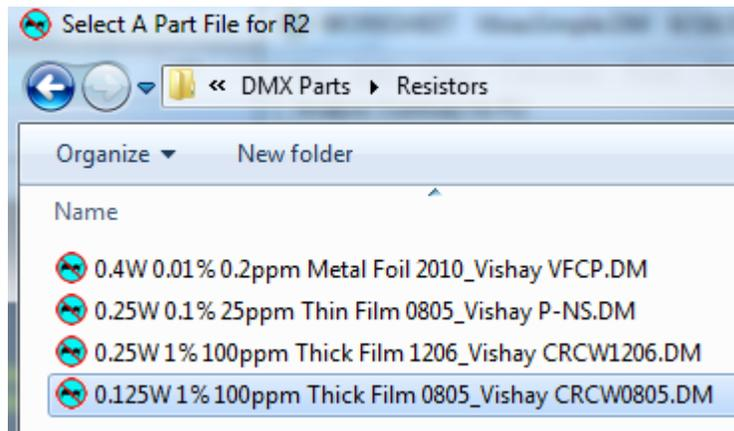

Fig. 11. Choosing a Part File.
c. Select a Part File (Fig. 11.)